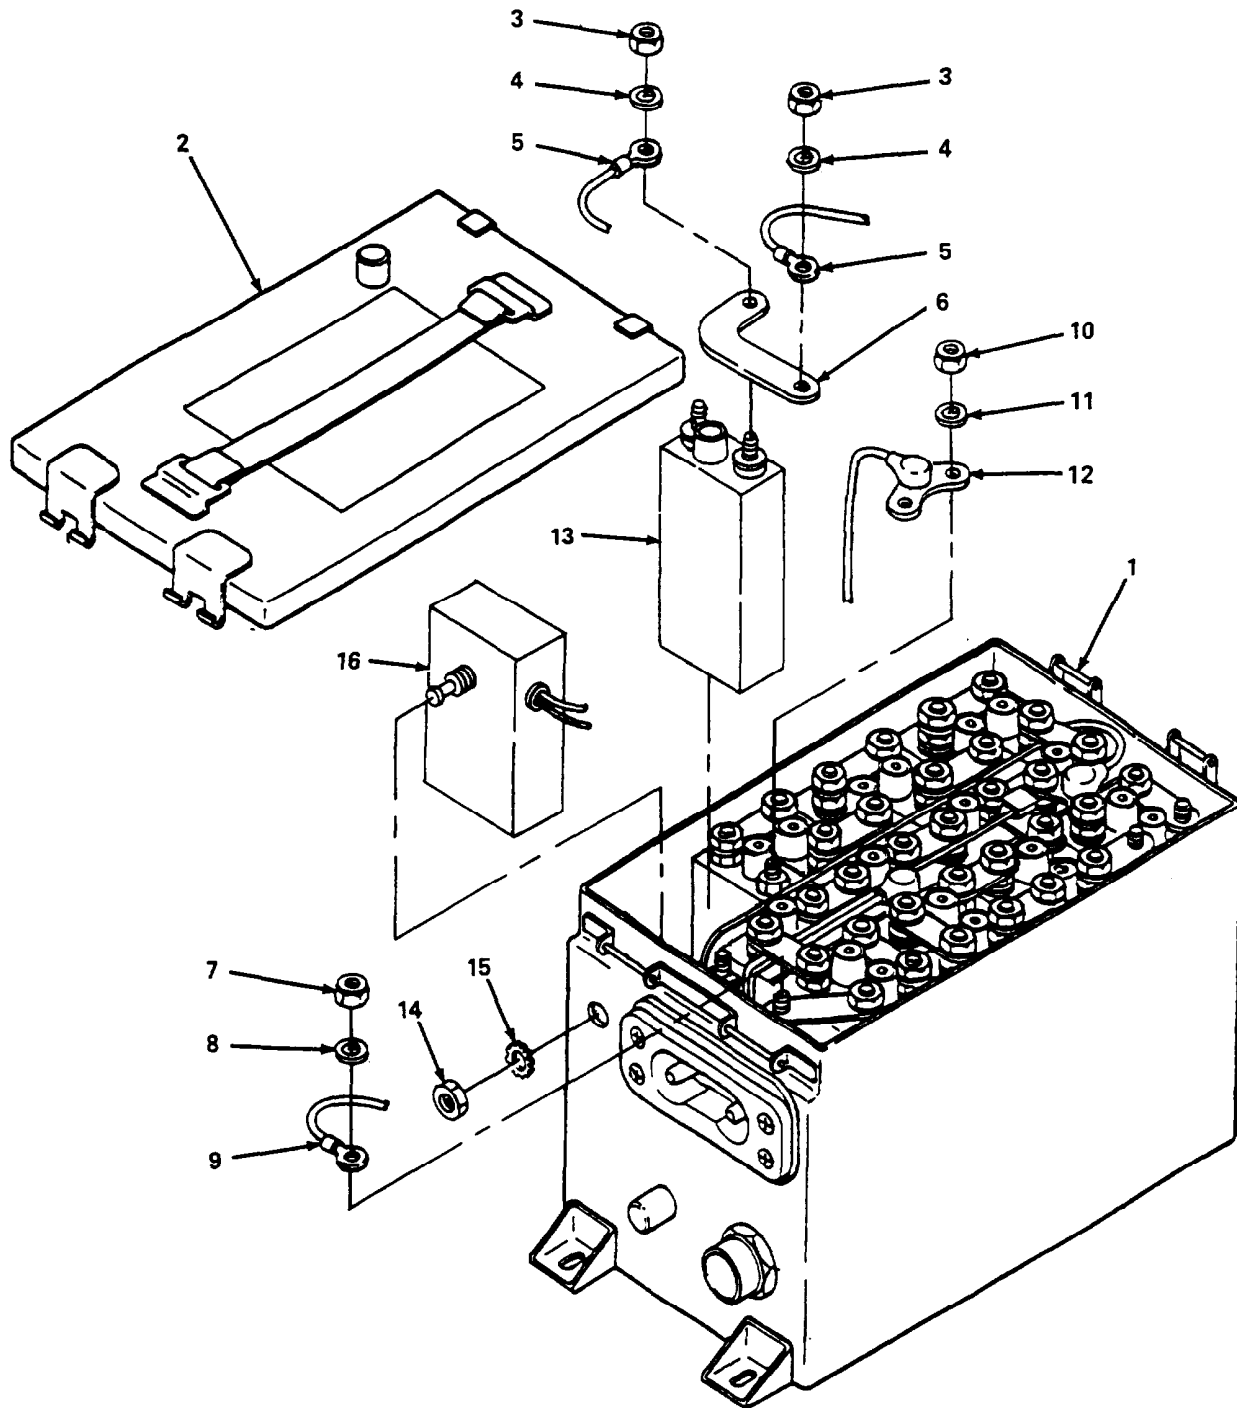

Figure 3-23. Battery BB-558/A Circuit Breaker Replacement,
- (l) Install and close cover (2) and secure with two latches (1).
(7) Circuit Breaker Replacement (fig. 3-23).
- (a) Unsnap two latches (1) and open and remove cover (2).